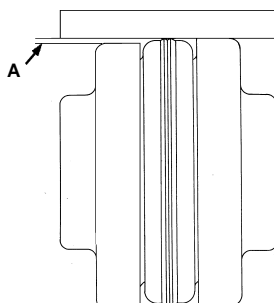

Figure 2-3
To check the PARALLEL alignment: (Refer to Figure 2-3)
2. Measure the maximum offset (A), Figure 2-3, at various points around the periphery of the coupling. **DO NOT** rotate the coupling.